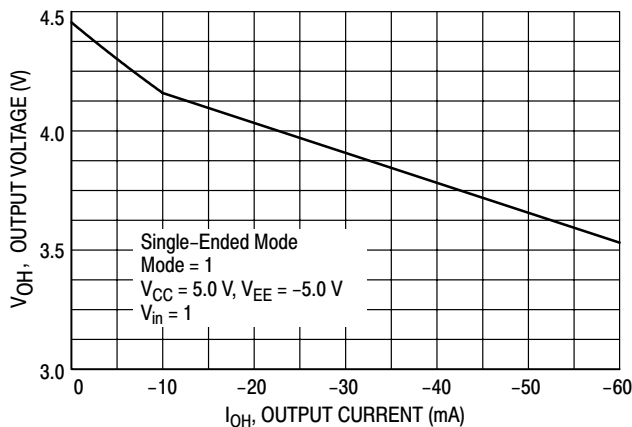
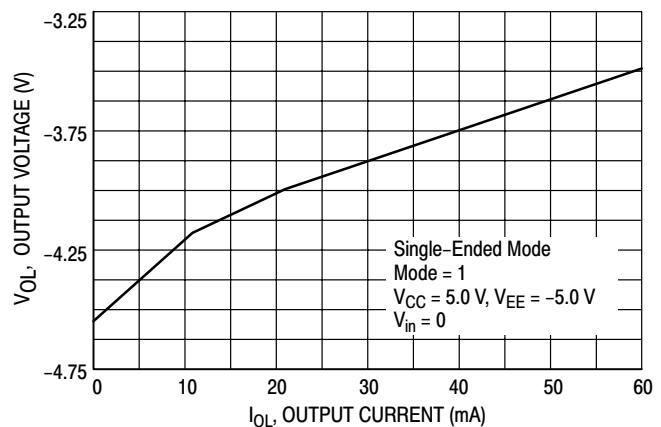
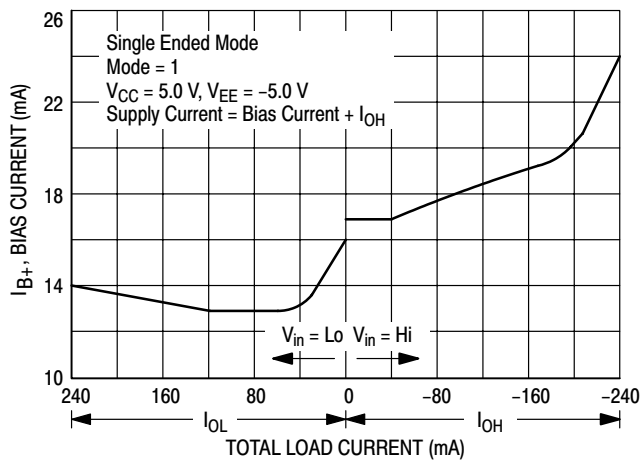
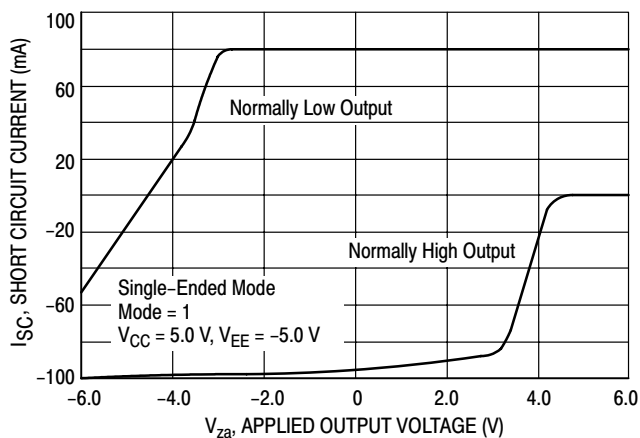

Figure 10. Output Voltage versus Output Source Current
Figure 11. Output Voltage versus Output Sink Current
Figure 12. Internal Positive Bias Current versus Load Current
Figure 14. Short Circuit Current versus Output Voltage
In this mode (Pin 4 ≥ 2.0 V) V_{CC} requires +5.0 V, and V_{EE} requires -5.0 V, both $\pm 5.0\%$. Pins 2, 3, 6, and 7 are inputs for the four drivers, and Pins 15, 14, 11, and 10 (respectively) are the outputs. The four drivers are independent of each other, and each output will be at a positive or a negative voltage depending on its input state, the load current, and the supply voltage. Figures 10 & 11 indicate the high and low output voltages for $V_{CC} = 5.0$ V, and $V_{EE} = -5.0$ V. The graph
of Figure 10 will vary directly with V_{CC} , and the graph of Figure 11 will vary directly with V_{EE} . A “high” output can only source current, while a “low” output can only sink current (except short circuit current – see Figure 14).
The outputs have short circuit current limiting, typically less than 100 mA over a voltage range of ± 6.0 V (see Figure 14). Short circuits should not be allowed to last indefinitely as the IC may be damaged.
In the single-ended mode, V_{EE} must be -5.0 V, $\pm 5\%$ in order to comply with EIA-423-A standards. Figures 12 and 13 indicate the internally required bias currents as a function of total load current (the sum of the four output loads). The discontinuity at 0 load current exists due to a change in bias current when the inputs are switched. The supply currents vary $\approx \pm 2.0$ mA as V_{CC} and V_{EE} are varied from $|4.75$ V to $|5.25$ V.
The above equation assumes I_O has the same magnitude for both output states, and makes use of the fact that the absolute value of the graphs of Figures 10 and 11 are nearly identical. I_{B+} and I_{B-} are obtained from the right half of Figures 12 and 13, and $(V_{CC} - V_{OH})$ can be obtained from Figure 10. Note that the term $(V_{CC} - V_{OH})$ is constant for a given value of I_O and does not vary with V_{CC} . For an application involving the following conditions:
2) The device may be operated in the single-ended mode (Pin 4 = 1) with V_{EE} connected to any voltage between ground and -5.25 V. Outputs in the high state will be at a voltage as shown in Figure 10, while outputs in a low state will be referenced to V_{EE} .